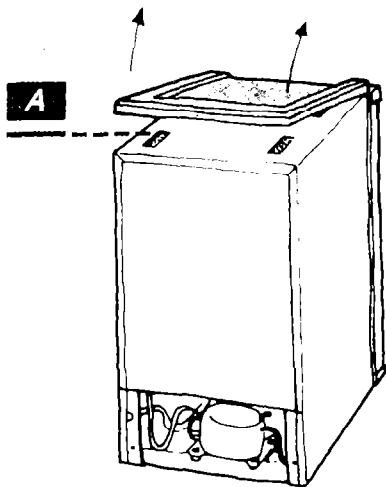

Fig. 1
- To remove the removable counter (Fig. 1), carefully lift the rear and then front part.
- Substitute the four adhesives tapes "A" (Fig. 1) on the REFRIGERATOR by the new ones supplied with the unit.